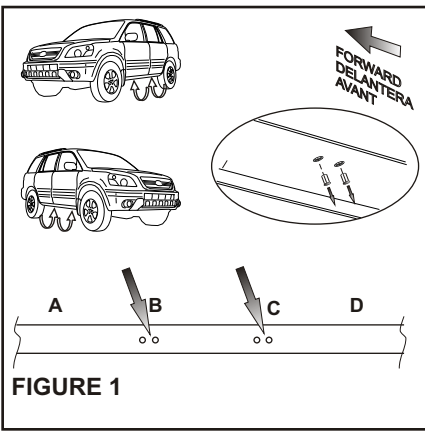

FIGURE 1
- STEP 2.** Remove plugs and install middle hanger brackets in locations as shown (See Figure 1, 2, 3 and 4).